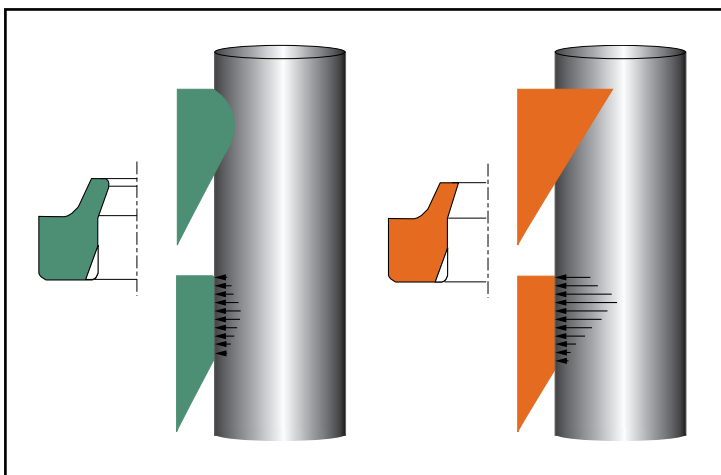

Figure 8-1. Radius vs. Straight Cut Lip Geometry
**3. Lip Geometry:** Parker wipers are designed to give the best possible exclusion performance by featuring perpendicular, or "straight-cut" lip geometries. The footprint of a sharp, straight-cut wiper causes a high concentration of forces which maximizes fluid film breakage while allowing contaminants to be pushed away from the wiping edge. (See Figure 8-1.) The footprint of a radiused lip, however,